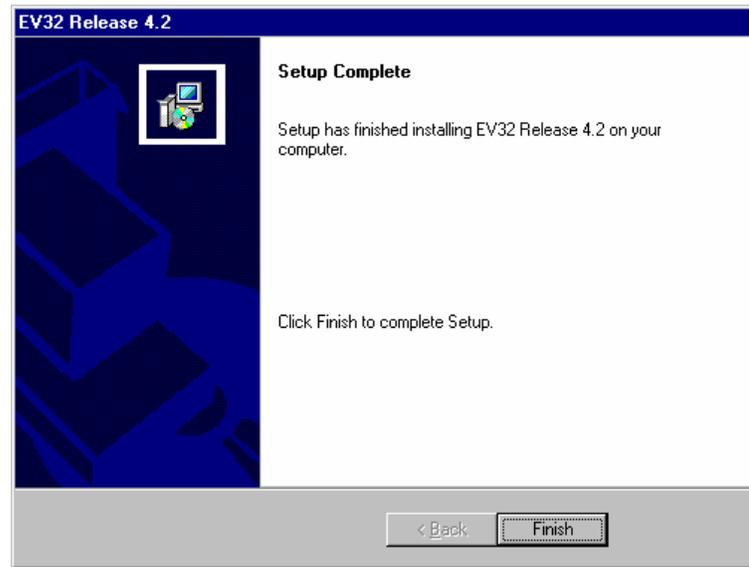

Figure 2-7. EddyVISION32 v4.x Installation Complete Message Window
9. Finally, the message box shown in Figure 2-7 appears indicating that the CoreStar EddyVISION32 software has been successfully installed. Click the **Finish** button to exit the installation program. You'll notice that a shortcut folder now appears on the Desktop entitled *EddyVISION32 Rel 4.x*. Double-clicking this folder reveals four (4) program shortcut icons. The installation program installs the complete CoreStar EddyVISION32 suite of eddy current related software products; however, only the programs you have security keys for will run. If desired, you may want to place copies of desired shortcuts directly on the Desktop. With the *EddyVISION32 Rel 4.x* folder open, right-click & drag desired shortcuts to the Desktop and release the right button, then select **Copy Here** on the popup menu.